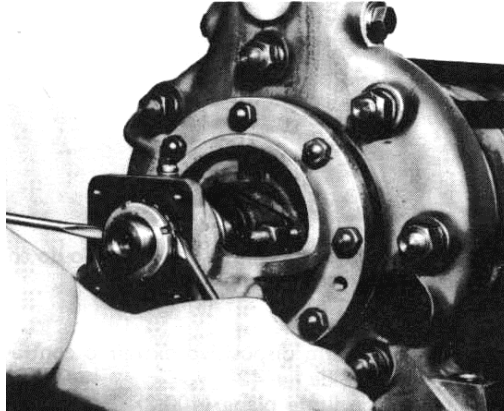

Fig. 51 - Forcing out the inner components of the cylindrical roller bearing
6. Pull out inner race of cylindrical roller bearing (322 together with clamping sleeve (52-1) from bearing housing (350) (see Figs. 51 and 52).